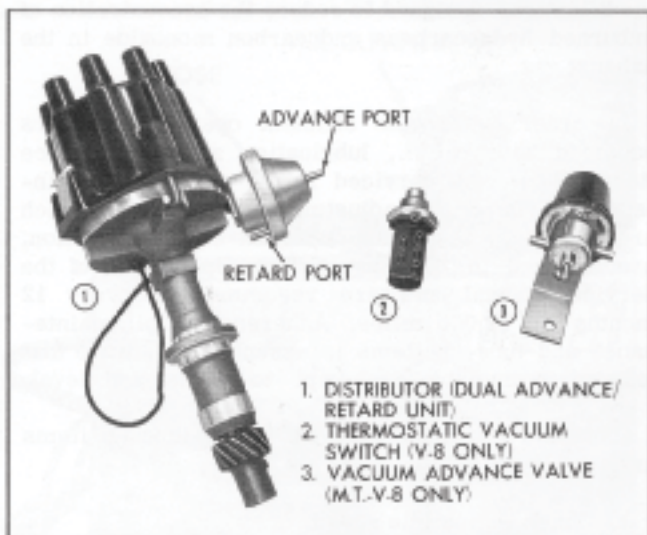

Fig. 6D-9 Components of Controlled Combustion System
a. With the engine shut off, the position of the control valve should be open to outside air. (Fig. 6D-7).
### DUAL ACTING DISTRIBUTOR (Fig. 6D-9)
plate. This is accomplished by providing a second port in the carburetor below the throttle plates. The advance side of the diaphragm is connected to a port above the throttle plates and therefore is not subject to vacuum (Fig. 6D-12).
### VACUUM ADVANCE VALVE (Fig. 6D-9)